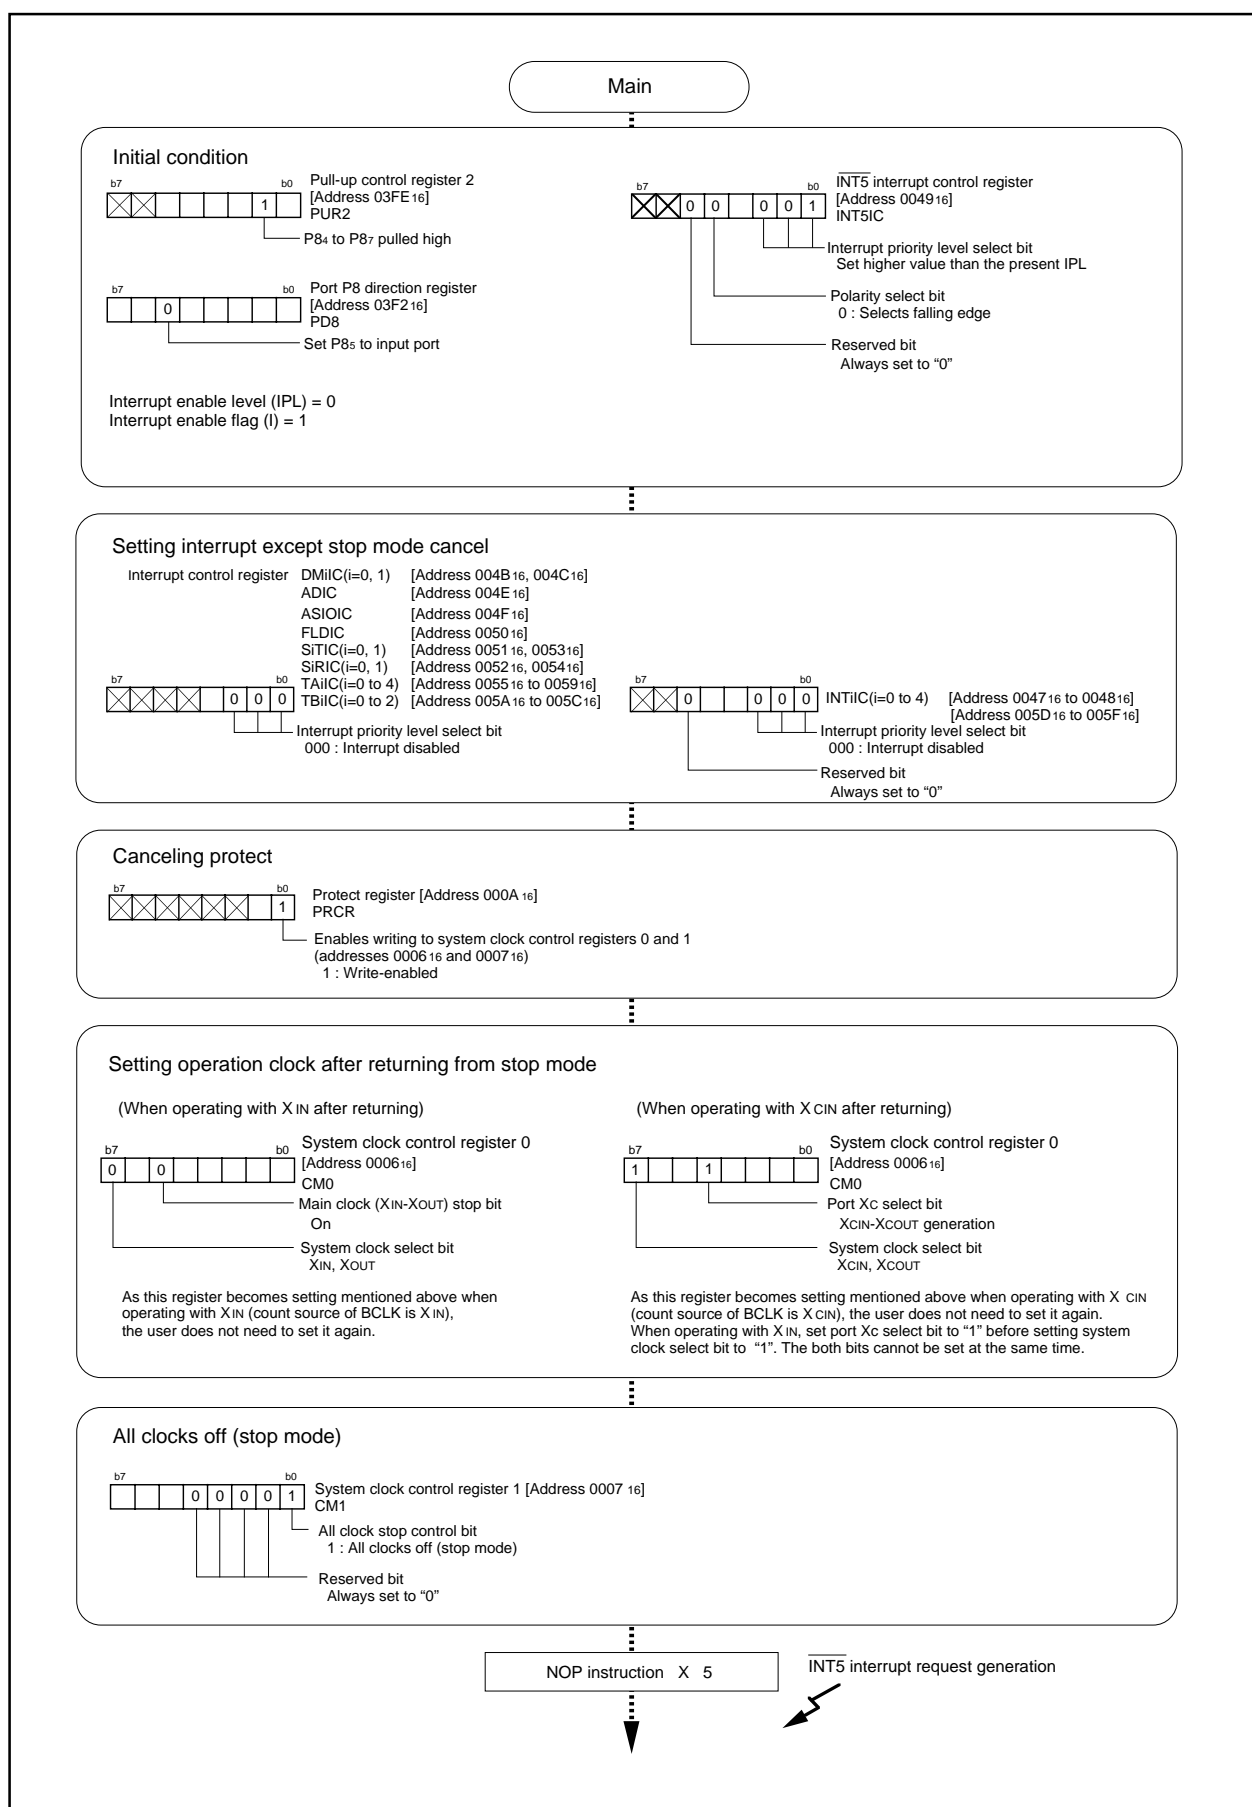

Figure 3.7.3. Set-up procedure of controlling power using stop mode (1)
**Overview** The following are steps for controlling power using stop mode. Figure 3.7.1 shows the operation timing, Figure 3.7.2 shows an example of circuit, and Figures 3.7.3 and 3.7.4 show the set-up procedure.